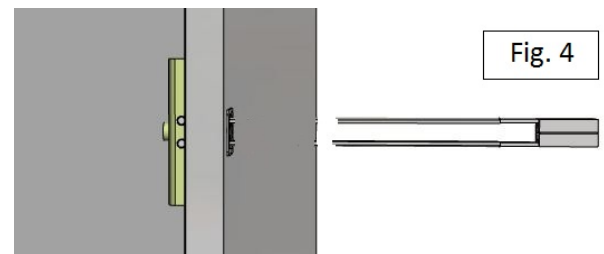

Fig. 4
3. Cut or snap straps at wall by pushing side to side, snapping off straps level with flange of cap, Fig 4.